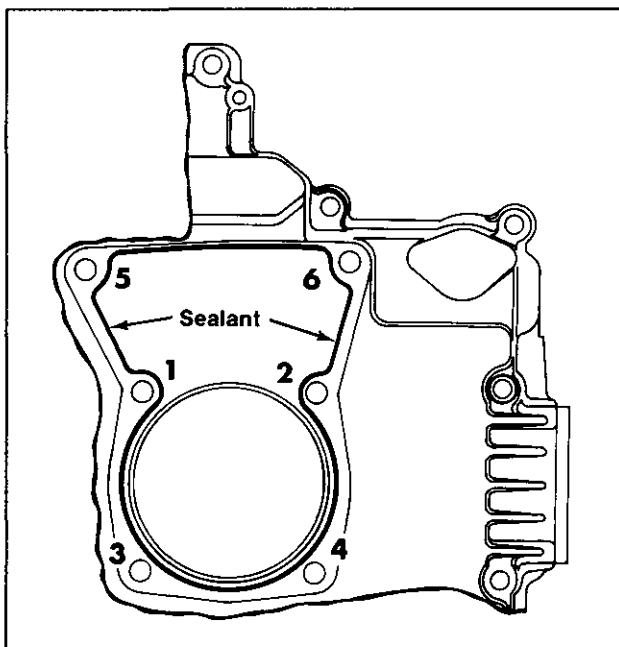

Figure 11-30. Cylinder Barrel Sealant Pattern/Cylinder Barrel Fastener Torque Sequence.
2. Apply a 1/16" bead of sealant to the crankcase as shown in Figure 11-30. Follow the sealant manufacturer's recommendations regarding setting.
6. Install the plain washers and hex. nuts. Torque hex. nuts #1 and #2 to **100 in. lb.** Torque the remaining hex. nuts to **100 in. lb.** in the most expedient sequence. Refer to Figure 11-30.